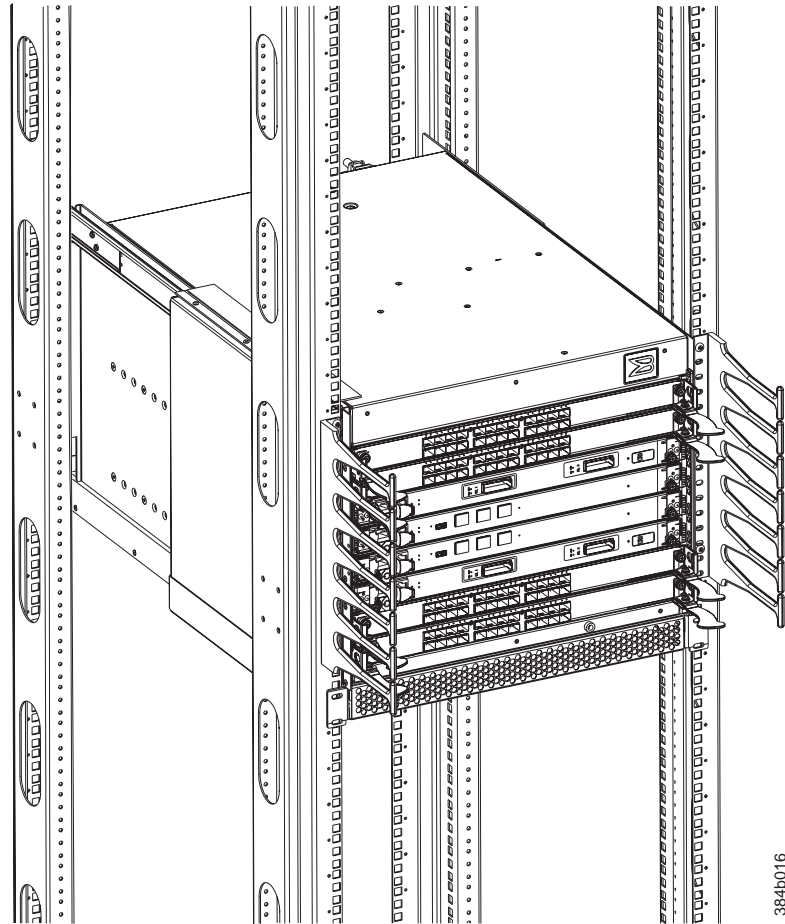

Figure 31. Cable management finger assemblies
2. Unscrew and save the two screws that attach the cable management assembly to the rack upright (see Figure 31 on page 61). Support the assembly to prevent it from falling.